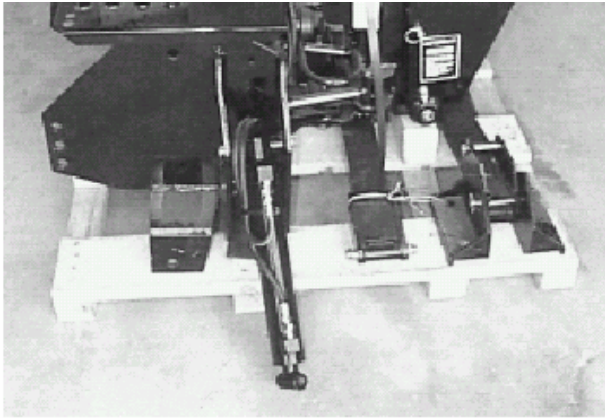

Figure 12A
**1.** Remove the stabilizer assemblies and any miscellaneous items which have been fastened to the skid and arrange conveniently. Reposition stabilizer cylinders from their shipping configuration (See Fig. 12A), by assembling them into the Mainframe, using pins and hardware provided. Be sure cylinder ports are pointed upward and hoses are routed above the cylinder to mainframe pivot pin connection. See Fig. 12B.